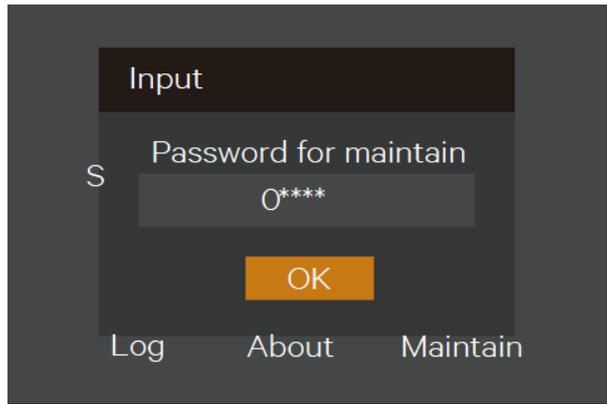

Figure 5-14 Inputting password
2. Press the  key to move the cursor to 'Monitor', see Figure 5-14.